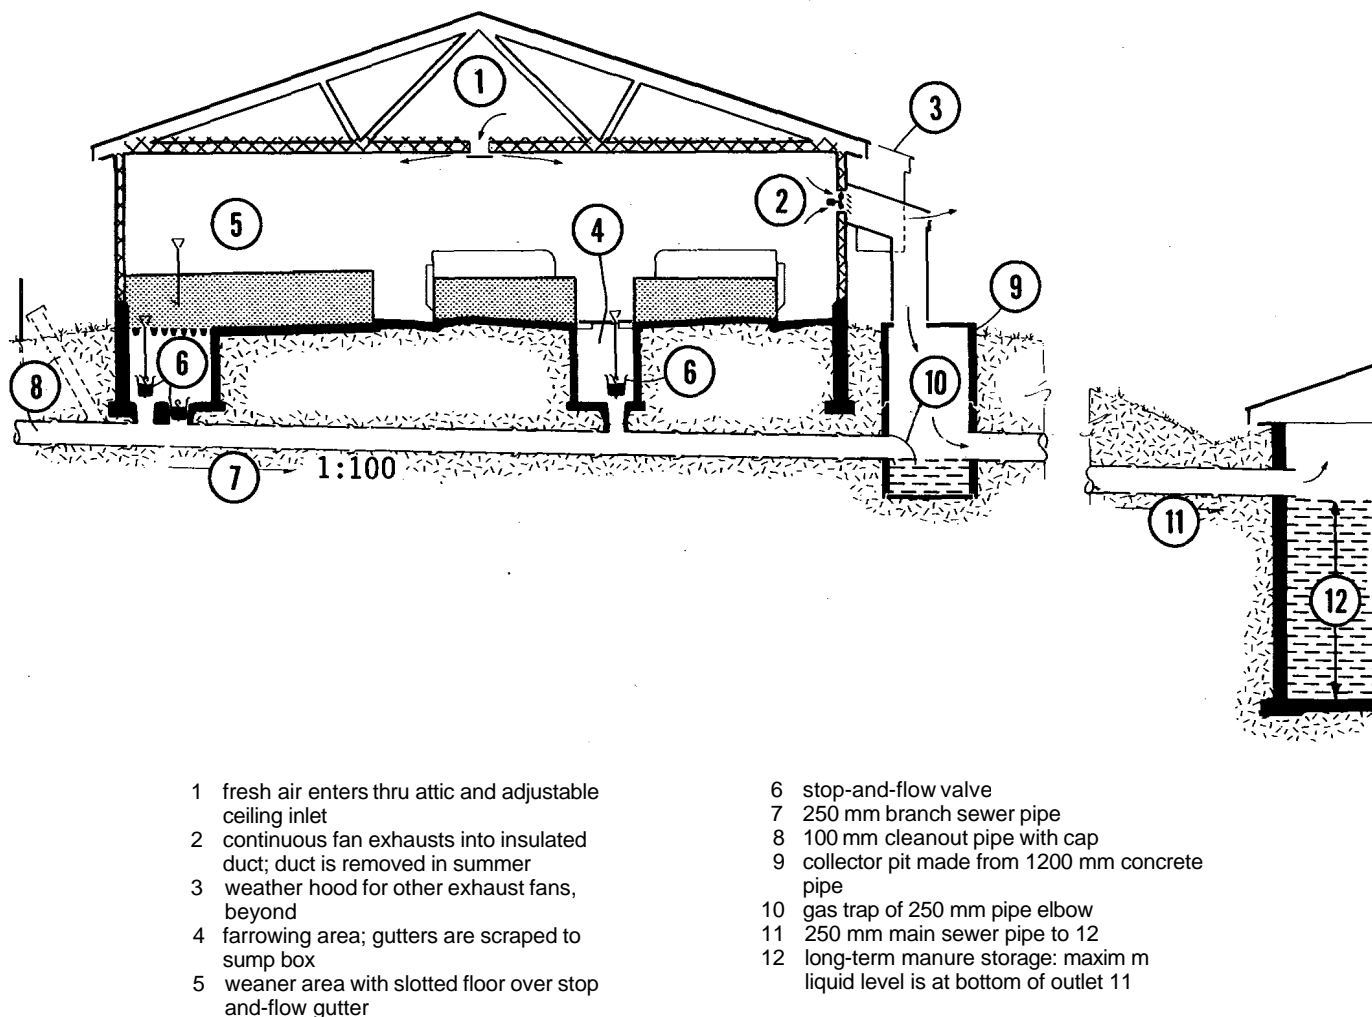

Figure 3 Typical stop-and-flow liquid manure system with gravity flow, remote long-term storage and exhaust ventilation protection
Figure 3 shows some special features to make the stop-and-flow system safer and easier to service. Sewer pipes (7) and (11) are smooth, watertight and big enough (at least 200 mm, better 250 mm). They always run in straight lines to minimize plugging. An important feature is the Yconnection and cleanout pipe (8), preferably outdoors for running a hose or sewer-cleaner through, in case of blockage. The gas trap (10) is the most important safety feature; it prevents manure gas from being drawn back up the sewer pipe (11) from (12).
If the ground is flat, the water table high or bedrock close to the surface, the gravity flow systems shown in Figures 3, 4 and 6 are not feasible. In such cases, pumps are usually used to transfer liquid manure from gutters to long-term storage. However, they frequently plug up, and may tempt the unwary down into the sump to clear the blockage.